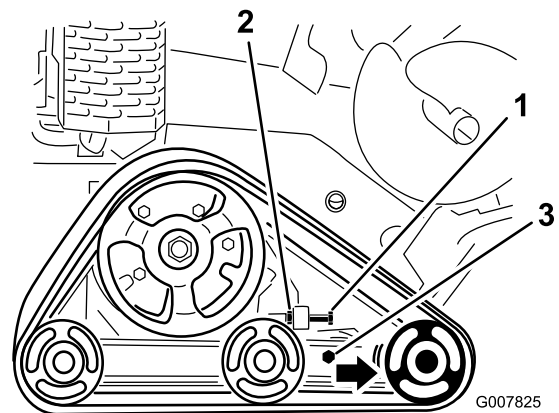

Figure 54
3. Loosen the jam nut on the track tensioning bolt and the clamp bolts on the tension arm (Figure 54).
4. Torque the tensioning bolt to 32.5 to 40 N·m (24 to 30 ft·lb) to tighten the track (Figure 54).
4. Back out the tensioning bolt and jam nut (Figure 54).
5. Loosen the clamp bolts (Figure 54).